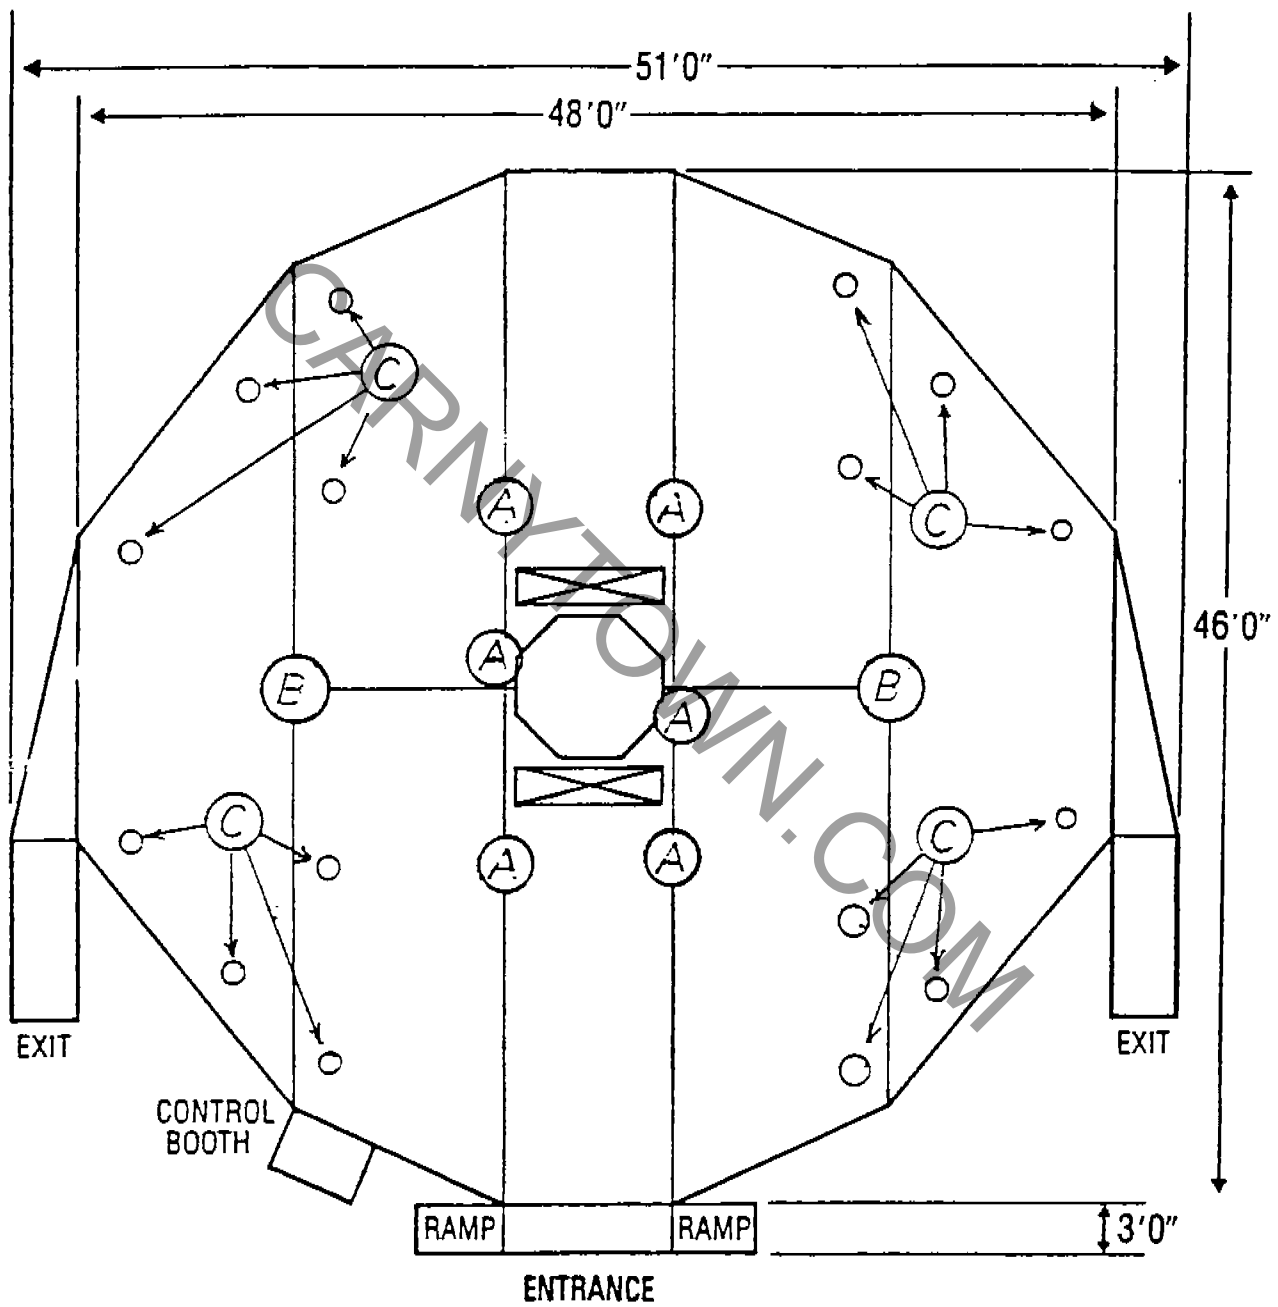

FIGURE 1
STEP 1: Locate trailer on as level an area as possible. Front of trailer should be located Approximately 3 feet from midway edge. **See clearance specifications, Figure 1.
STEP 12: Lower rear of trailer approximately level with front. Using both jack controls, simultaneously, lower both jacks being careful to keep both leveling cylinders on each jack even, so as not to tilt trailer. Lower both front and rear of trailer until trailer frame is approximately six (6) inches from ground.
STEP 13: With trailer six (6) inches above ground, block and level trailer in six (6) places (refer to Figure 1, Point A), using preferably a 2' X 12' plank (s). It is recommended that at least a two (2) foot square on the initial layer is needed with additional layers installed in a crib fashion. Plywood shims can be used to bring to proper level.
STEP 14: After trailer is level, block solidly outside end of outrigger (one (1) each side) (refer to Figure 1, Point B). Swing out secondary platform support from main outrigger, level and block solidly. This is to be done on both sides of trailer. Turn off main pump.
- STEP 21:** With at least three (3) people pulling on platform rope described in Step 18, pull out platform while operator on top center of ride simultaneously extends winch cable. Person operating winch must watch cable closely to insure cable does not become slack as platform starts to fold out.
- STEP 26:** Using electric impact wrench, level platform eight (8) places each side, (Figure 1, Point C-) use appropriate blocking under each platform jack. Leveling is accomplished by inserting wrench through access hole in platform and turning nut clockwise to lower platform and counter clockwise to raise platform.
- STEP 28:** Using electric impact wrench, level platform eight (8) places each side. (Figure 1, Point C.) use appropriate blocking under each platform jack. Leveling is accomplished by inserting wrench through access hole in platform and turning nut clockwise to lower platform and counter clockwise to raise platform.
STEP 34: Unrack and move to outside edge of platform, four (4) seats which are to immediate right and left of hanging turret arms.